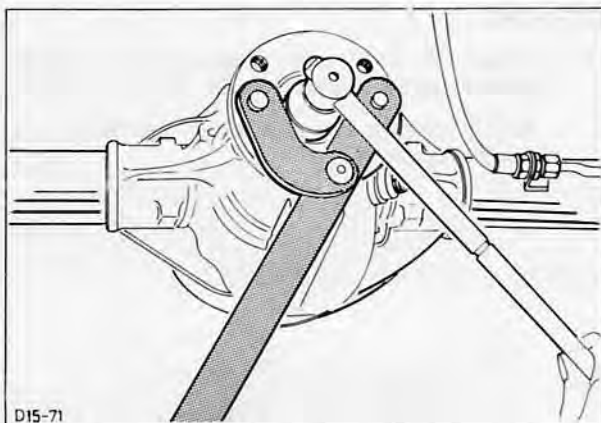

Fig. 135. Hold flange with special tool no. 15-030 and unscrew nut
2. Hold flange with Special Tool and unscrew nut, Fig. 135.